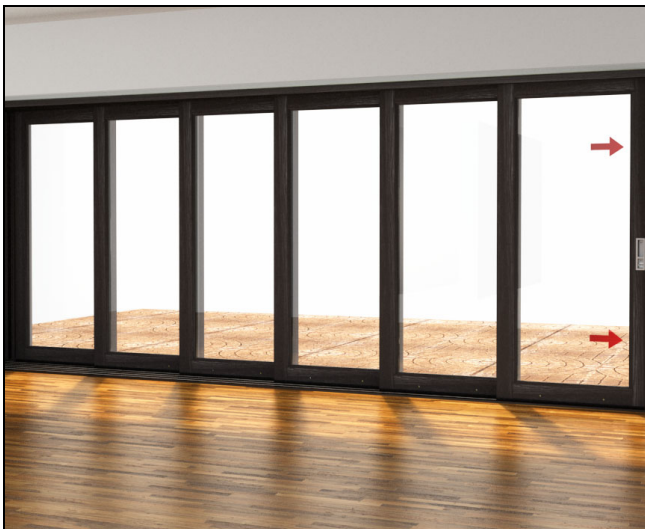

Figure 77
5. Operate the doors to ensure smooth movement and check positioning of the interlocks, head jamb, and side jambs. To ensure pocket interlock is placed correctly, close all panels, making sure primary panel locks properly. Make any necessary adjustments at this time. See figure 77.